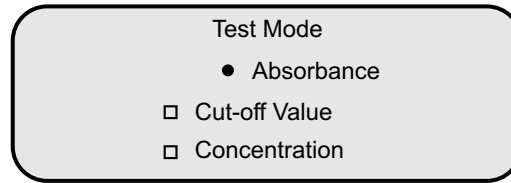

Fig. 7: Detection Mode
1. With the consideration that working wavelength of most items is 450nm, the default wavelength is 450nm. If the default value is consistent with the reagent specification, press **Enter** key directly and go to the sub menu (Fig. 7);
3. At this time, the symbol of ● is in front of **Continue**. If you want to continue programming, press **Enter** key to confirm. Then the interface of selecting detection mode (Fig. 7) appears. If you want to return to the main menu, press **Reset** key; if you want to return to the superior menu, press ▼ and **Enter** key;